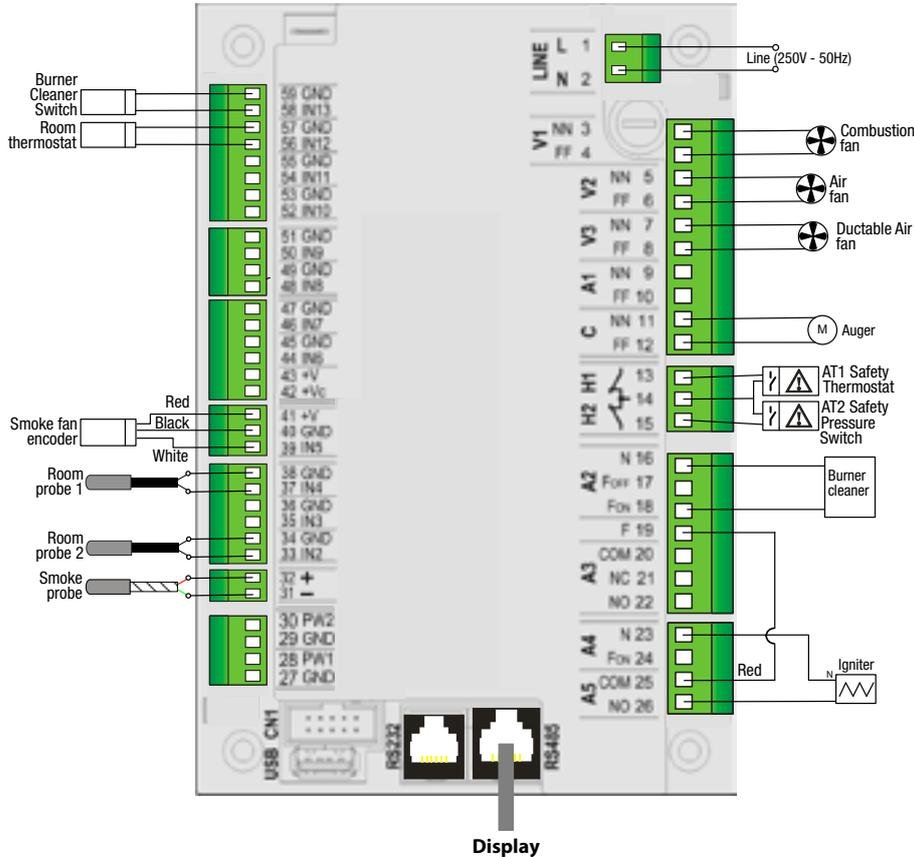

fig. 14 - Termostato di sicurezza
- The thermal security thermostat can be found below the power cable, *fig. 14*. Unscrew the black cap that covers a white button, press the button until hearing a click. At this point the thermostat is reset.